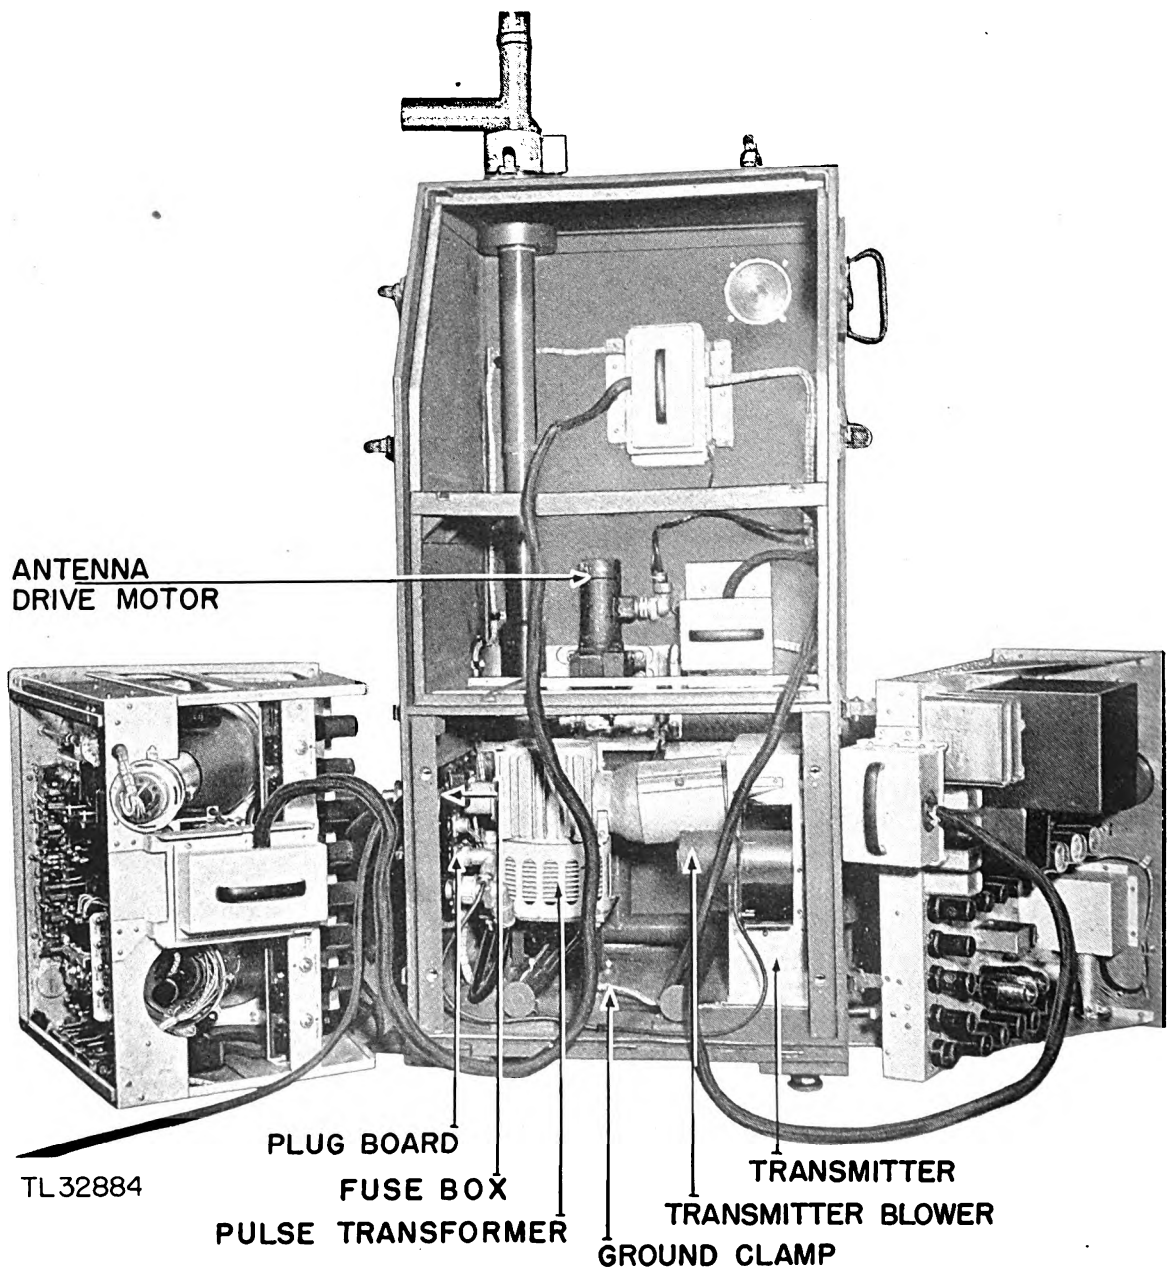

Figure 13. Console with chassis removed.
*b. Clean.* The cabinet, outside and inside, should be cleaned with a clean, dry cloth (fig. 13). Clean the glass of the meters and the control mounts with a clean cloth.